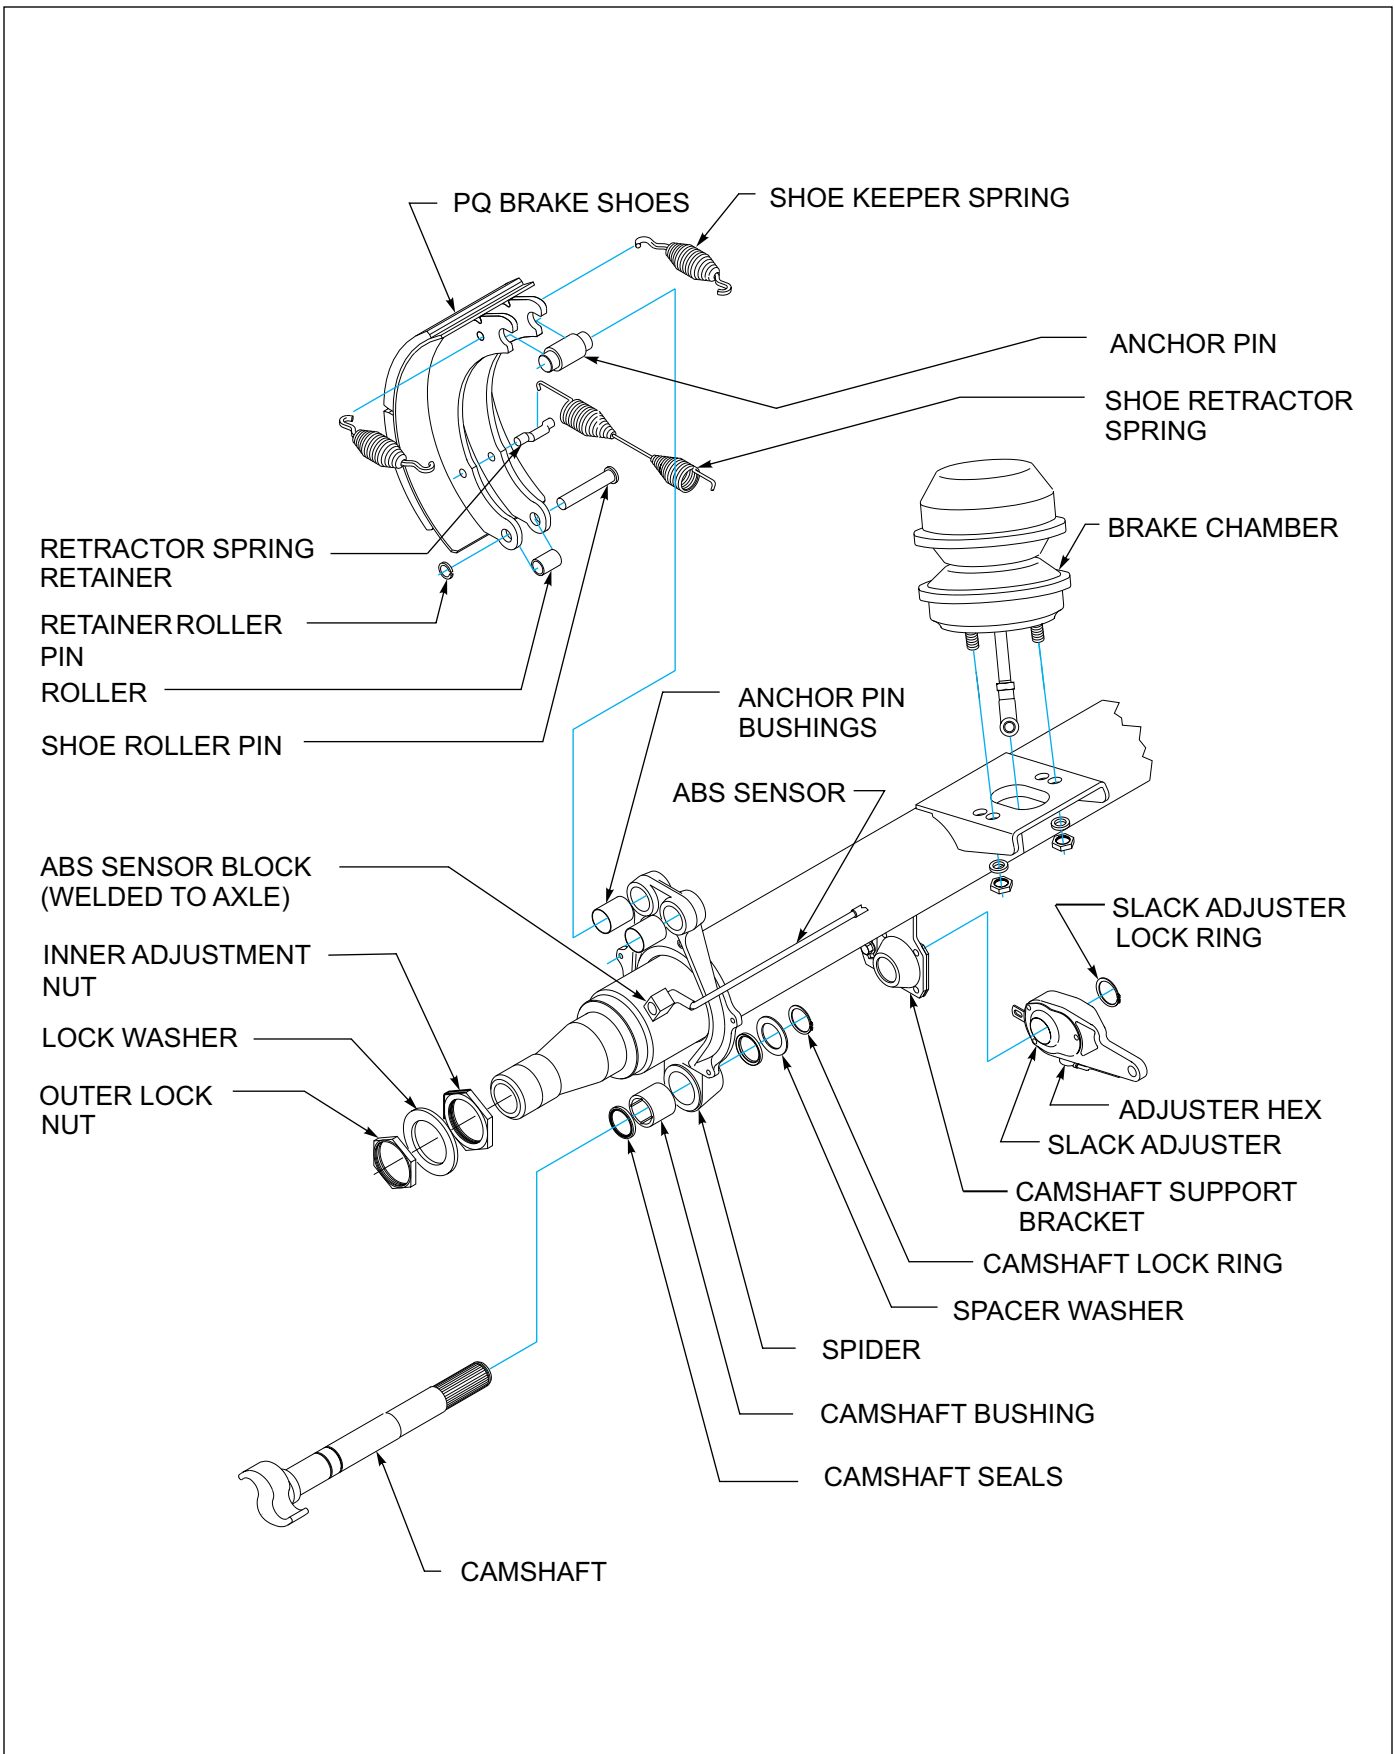

Figure 4-15: Axle and Brake Assembly
2. Remove slack adjuster lock ring and slack adjuster (*See Figure 4-15.*)
1. Release brakes and back off slack adjuster (*See Figure 4-15.*)